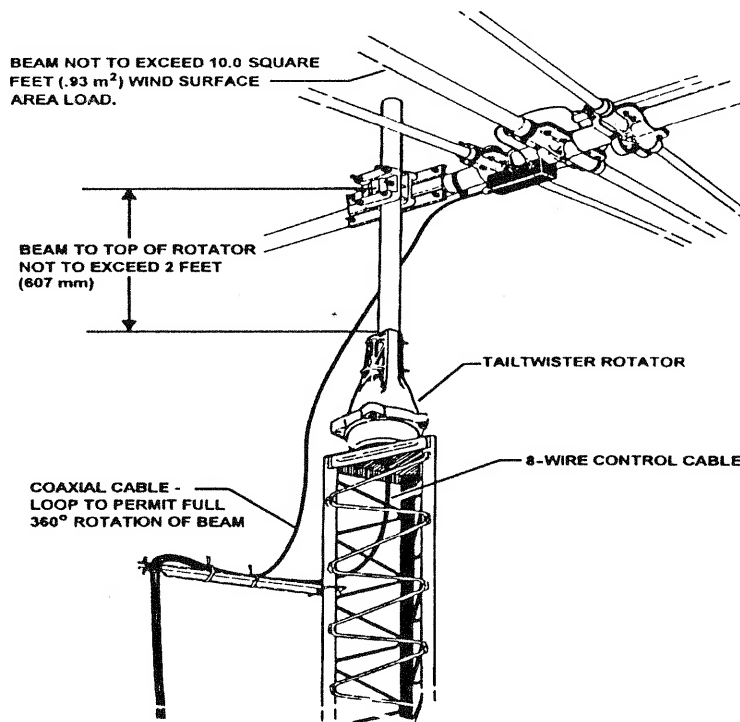
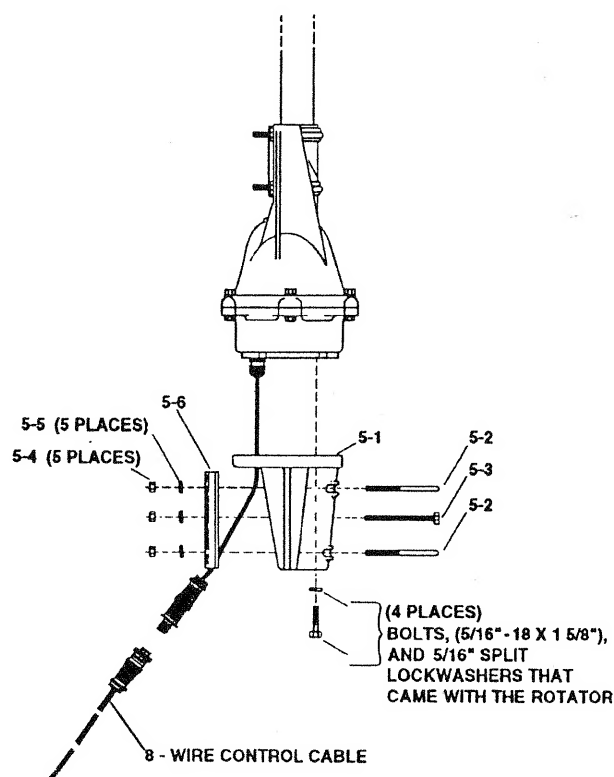

Figure 5
Figure 6
2. An "outside" Tower Mount (see Figure 6) is optional. The rotator is not well protected but the installation is simpler. With an "Outside" Tower Mount, the rotator must be derated to 10 square feet (.93 m2).
Referring to Figures 5, 6, and 7, an outside tower or pole mount is made in the same manner except that the rotator is fastened by four (4) bolts only (not six) to the Lower Mast Support, PN 5146710. Since the eccentricity of the rotator turning in reference to the tower is no longer important, the shimming procedure is not necessary. The four (4) screws must be torqued to the same specification and the 8-wire cable securely fastened. The lower mast should be pinned with the 5/26"-18 x 4" bolt as shown in Figure 6.
The stock Tailtwister T2X is intended to mount on the base plate inside of the tower. However, in some instances, outside tower or mast mounting is desired as per Figures 5 and 6. This kit, P/N 5146710 contains a heavy-duty lower mast support and the necessary hardware to facilitate mounting the T2X on top of a tower stub or mast.